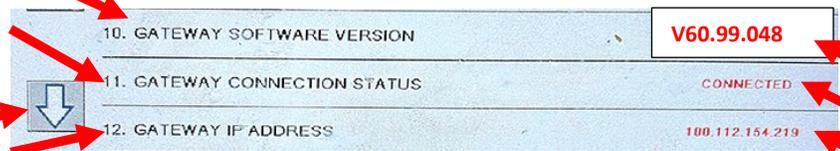

Figure 19
7. The **GATEWAY CONNECTION STATUS** should be **CONNECTED** (see Figure 19) indicating that it is connected to the cloud. If not, wait 5 minutes and recheck. If it displays **NOT CONNECTED**, the customer needs to add it to their cloud with store, location and a registration code. If it displays **NOT REGISTERED**, contact Frymaster to enter the serial # into a database.
8. The **GATEWAY IP ADDRESS** is shown. The **GATEWAY SOFTWARE IP ADDRESS** should have some numbers that are **NOT ALL ZEROS** (see Figure 19). **NOTE: The IP address WILL be different than shown (see Figure 19).** If only zeros are shown, power cycle the
9. Press the down arrow button (see Figure 19).